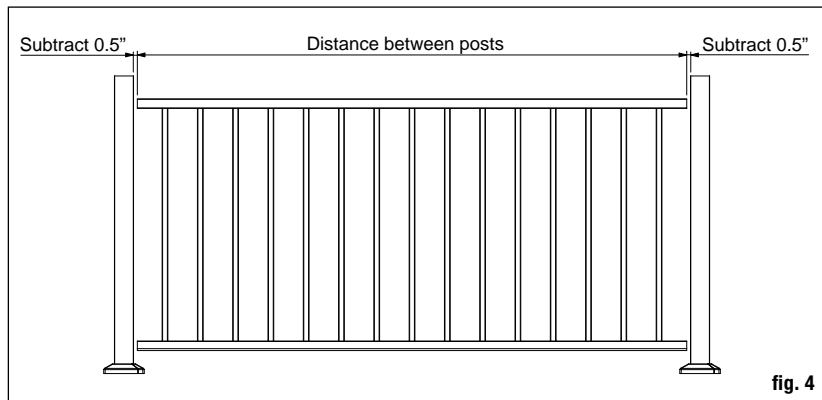

fig. 4
Step 2 Remove an additional 1/2" on both ends (1" overall) for the bracket to fit between the rail and post. Trim the top and bottom rails to length (fig. 4).